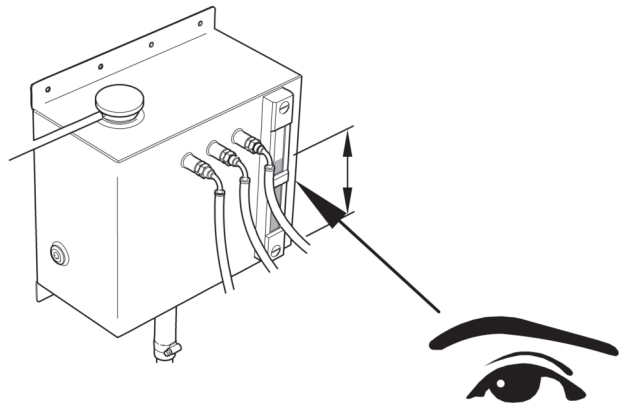

Figure 35
- 8 Check coolant level in the sight glass (figure 35).